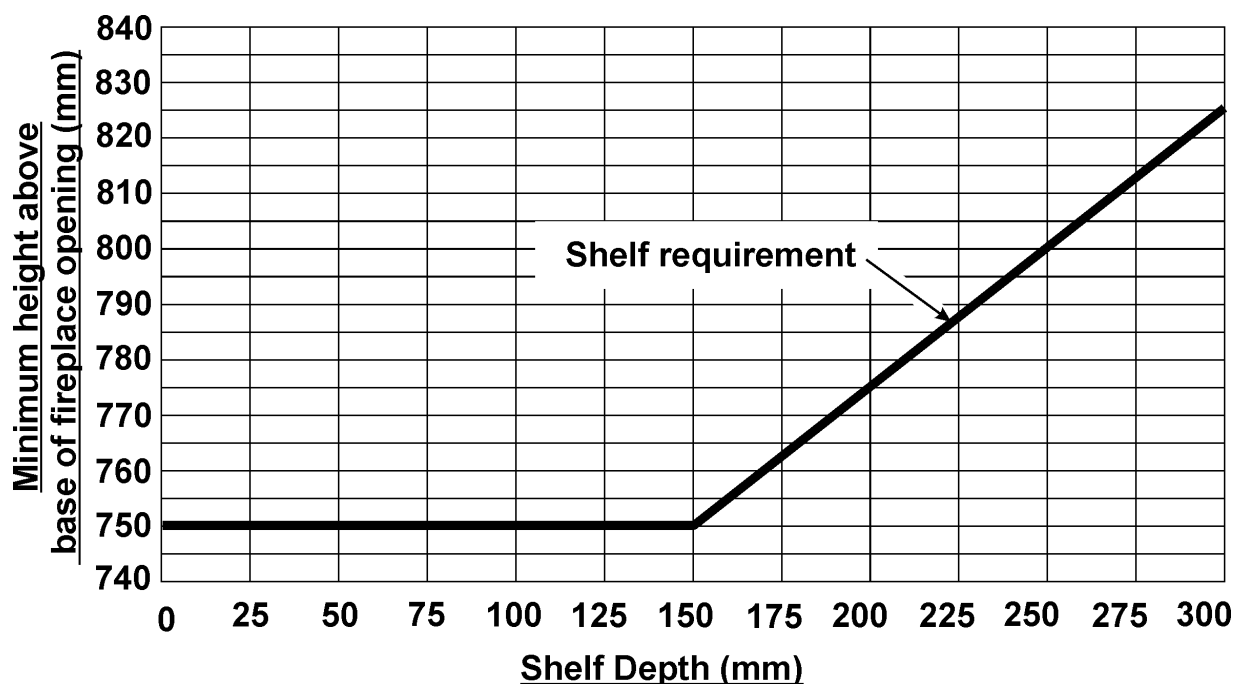

Figure 1. Combustible shelf clearances
**Do** provide a minimum clearance of 750mm from the base of the fireplace opening to any shelf made of wood or other combustible material where the shelf is not more than 150mm deep. For a shelf deeper than 150mm, add 12.5mm to the clearance for every 25mm of additional shelf depth (See figure1).